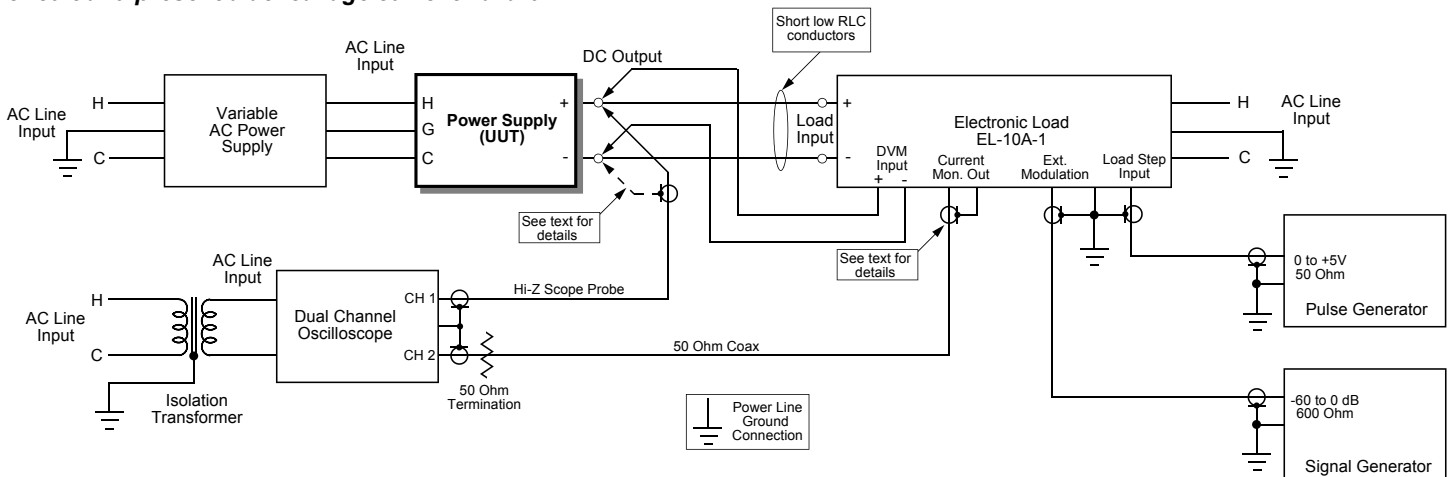

Fig. 4. Basic AC Line operated power supply test set up.
**Basic Power Supply Evaluation.** The EL-10A-1 Electronic Load has many applications, including uses that are not obvious. However, Fig. 4 represents one of the most common uses, which is basic power supply evaluation. Sufficient detail is included to enhance understandability, however there is no substitute for hands-on experience testing power sources.
**Basic Set Up.** For the most part the interconnections shown in Fig. 4 are self-explanatory, but a few items need elaboration. First, the EL-10A-1 chassis is connected to the power line ground as are the pulse and signal generator input BNC connectors. However, the current monitor output BNC is isolated from power line ground, as are the control and monitoring circuitry. The oscilloscope used to monitor the current output must also be isolated from power line ground. **Use caution and an agency listed isolation transformer to do this safely. Just removing the power line ground from the scope WILL NOT WORK as the ac leakage current will disrupt the EL-10A-1 control circuit and present a ac leakage current hazard.**
The set up in Fig. 4 is an easy way to evaluate this characteristic of the UUT. Simply read the output voltage at the low current
Note, in some cases load and line regulation specifications are lumped into a single "regulation" specification. Also note, other environmental and operating conditions may have unique specifications, for example stability over a specified temperature range, humidity, elevation or shock. Any of these can be tested with the basic configuration shown in Fig. 4 by exposing the UUT to the appropriate condition.
The set up in Fig. 4 can be used for this purpose. This is the reason short, low RCL (resistance, capacitance and inductance) leads are required connecting the UUT and Load. It is extremely important to evaluate and understand the contribution the leads have on step performance. Typical modern power supplies have quite low output impedances, so low as a matter of fact that interconnecting lead impedance may exceed it.